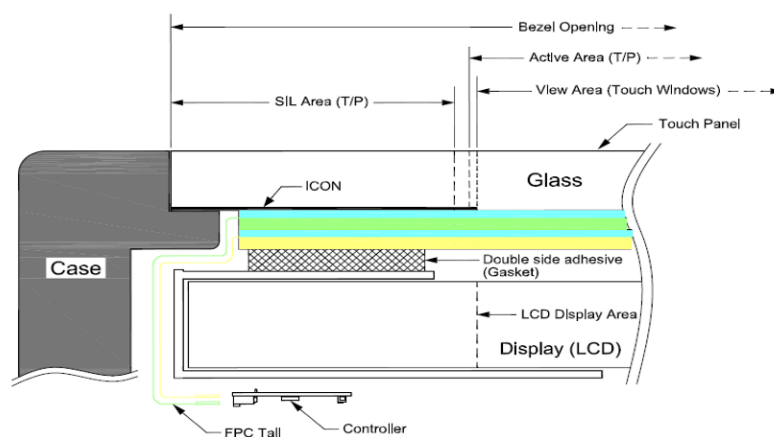

Figure 11-1
(1)	The gasket support of touch panel must be designed on the outside of viewable area , as well as to avoid pressing on touch panel accidentally , the enclosure must be designed with enough clearance to panel surface. To avoid pressing error on touch panel accidentally , please remain space between the surface of panel and the Bezel. (Figure 11-1) [請將固定觸控屏用的支撐體(support)設計於可視區(Viewable area)之外。為避免不小心碰到觸控屏而產生動作，請預留空間於面板與機體外殼之間。] (圖示 11-1)
(2)	We recommend elastic material made support. [建議使用彈性物質製成的支撐體]
(3)	The edge of touch panel is conductive. Don't touch it with metal after mounting. [觸控屏面板四周有可能會導電，安裝時後請勿與其他金屬物質接觸。]
(4)	Please take notice of the grounding of power while mounting the touchScreen , otherwise interference may cause unstable performance. [電容式觸控螢幕的組裝必須注意電源的接地，可能因外界干擾會有作動不穩定的情況發生。]
(5)	Please do not pull on flex tail during assembly. Do not bend at 90°and each bend angle should be no less than R:2mm. [組裝時不可拉扯 TAIL 訊號線，且不可直接彎折 90°度每處彎曲處都需保持最小 R 角(R=2mm)。]
(6)	During assembly , the touch panel must be securely affixed onto the LCD Panel to prevent displacement of the touch panel due to outside force pressing on touch screen or bezel/case. [電容式觸控面板與 LCD Panel 組裝時，必須確實黏貼固定，不可因外力按壓觸控面板或機殼，而造成觸控面板晃動偏移。]